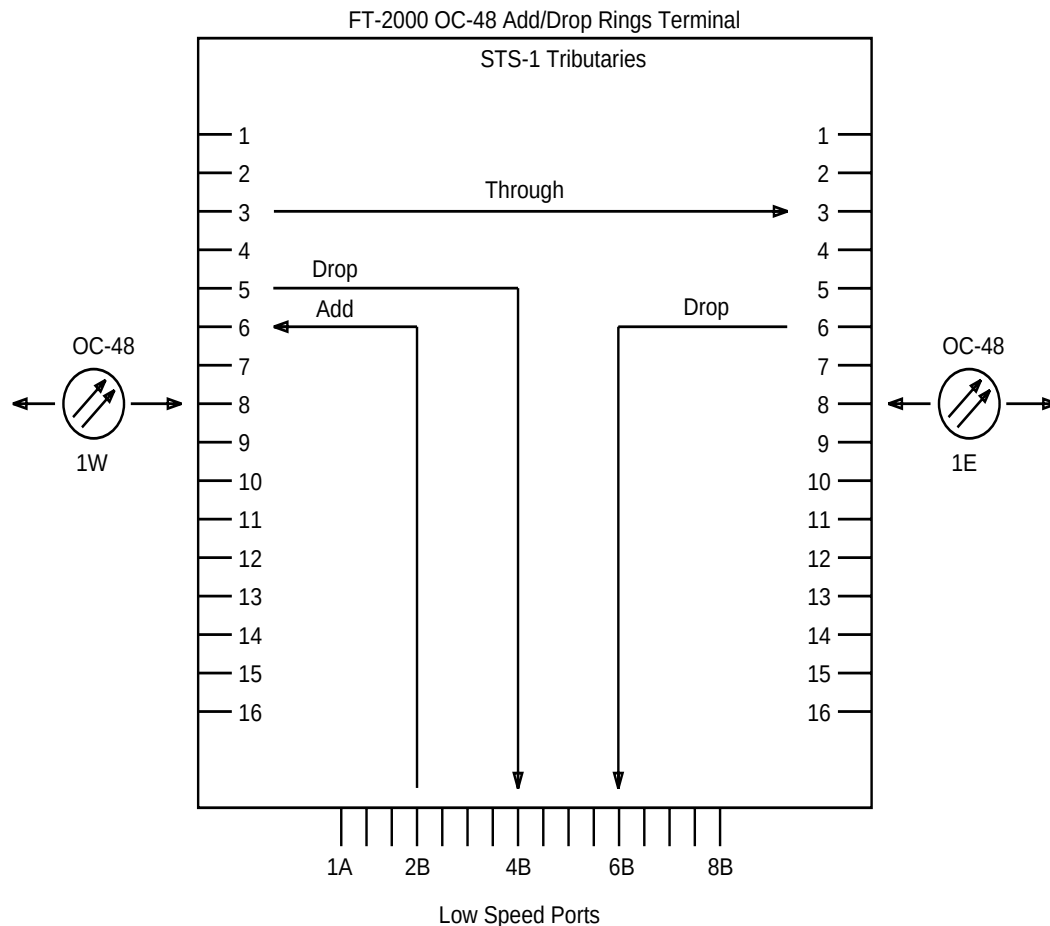

Figure 8-1. STS-3 1-Way Cross-Connections at an FT-2000 OC-48 Add/Drop-Rings Terminal
- **Add cross-connections:** Add cross-connections are made from any service low-speed interface slot to any outgoing 155 Mb/s (STS-3) tributary of OC-48 high-speed line 1E or 1W. For example, Figure 8-1 shows service low-speed interface slot 2B cross-connected to outgoing service STS-3 tributary 6 of OC-48 high-speed line 1W.
- Drop cross-connections:** Drop cross-connections are made from any incoming STS-3 tributary of OC-48 high-speed line 1E or 1W to any service low-speed interface slot. For example, Figure 8-1 shows incoming service STS-3 tributary 5 of OC-48 high-speed line 1W cross-connected to service low-speed interface slot 4B.
- **Through cross-connections:** Through cross-connections are made from any incoming STS-3 tributary of OC-48 high-speed line 1E or 1W to the same-numbered outgoing STS-3 tributary of the other OC-48 high-speed line. For example, Figure 8-1 shows incoming service STS-3 tributary 3 of OC-48 high-speed line 1W cross-connected to outgoing service STS-3 tributary 3 of OC-48 high-speed line 1E.
When an STS-3 tributary of OC-48 high-speed line 1E or 1W is cross-connected to a service low-speed interface slot, another service low-speed interface slot may be cross-connected to the same-numbered STS-3 tributary of the other OC-48 high-speed line. For example, Figure 8-1 shows service low-speed interface slot 2B cross-connected to service STS-3 tributary 6 of OC-48 high-speed line 1W, and service STS-3 tributary 6 of OC-48 high-speed line 1E cross-connected to service low-speed interface slot 6B. This is consistent with the 2-fiber bidirectional, line-switched ring standard.